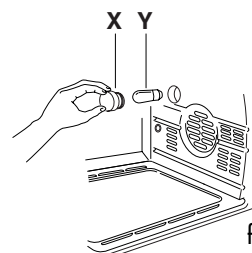

fig. 15
- unscrew the protective glass cover (X), by turning it anti-clockwise, and replace the bulb (Y) with a new one of the same type (see Fig. 15). Replace the protective glass cover (X).